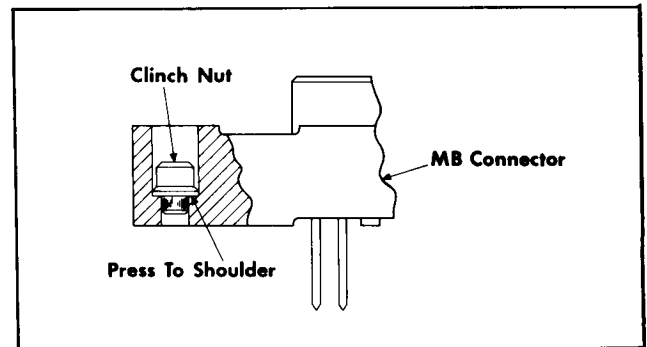

Figure 2. MB connector with clinch nut assy.
- *b. A clinch nut (such as Abbott or Esna #79NCFMA2-26) (Bendix® P/N 10-285461-256) may be pressed from the front, knurled end first, through the 0.185 inch diameter countersink into the 0.122 inch diameter hole at each end of the connector. (Ref. figure 2) An appropriate length 2-56 UNC-3A screw and washer may be used to mount the connector. Mounting forces should be applied to the nut toward the rear of the connector.